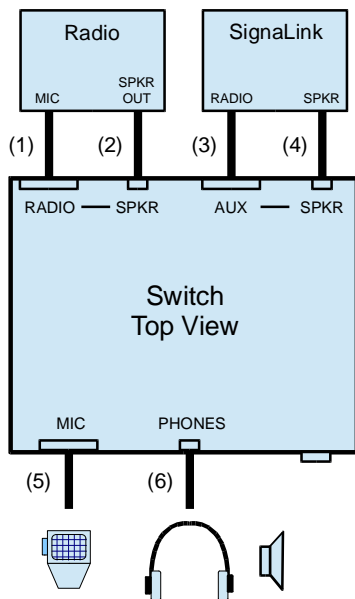

Figure 4 SignalLink Installation
- 2 - The switch must be properly connected to the radio using the supplied RJ-11 to RJ-11 cable (refer to the connection block diagram shown in Figure 4 on page 3). **No other cables should be connected to the switch at this time.**
See Figure 4 for a block diagram of this installation. Note that the cable connections shown in the diagram are marked "(1)", "(2)", "(3)", etc., and correspond directly to the steps below.